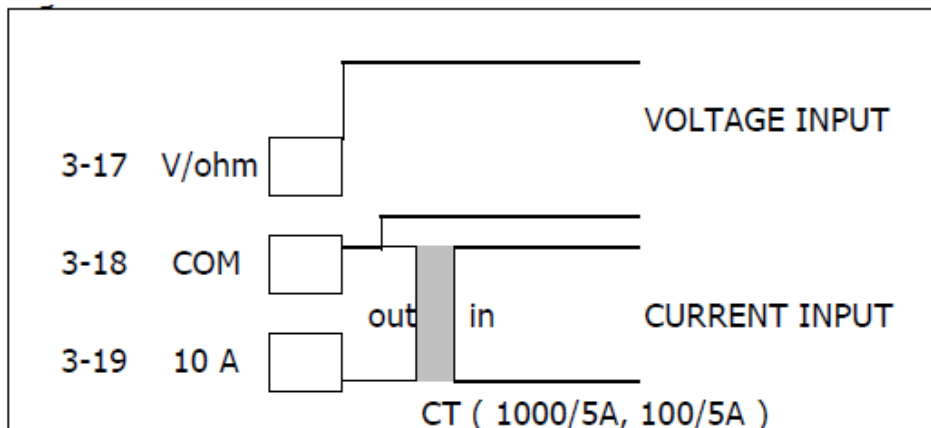

Fig. 3
1. Wire connection as follows, refer (Fig. 3)
"V-Terminal" (3-17, Fig. 3) and "COM Terminal" (3-18, Fig. 3)
Current transformer output connect to the "10 A Terminal" (3-19, Fig. 3) and "COM terminal" (3-18, Fig. 3)